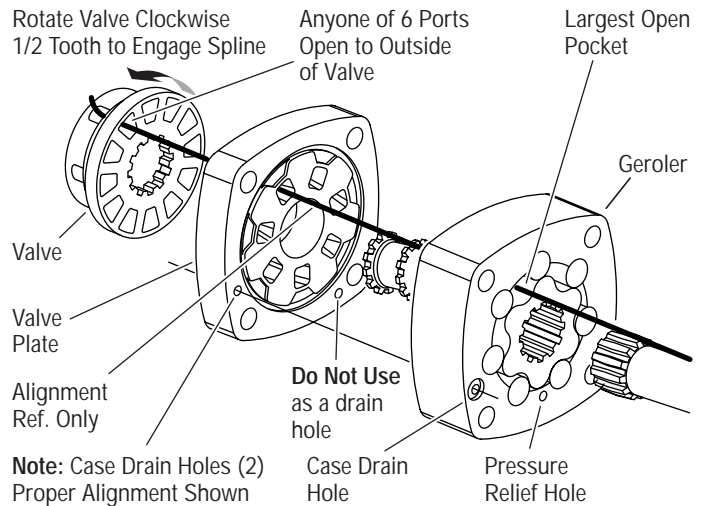

Figure 16 Timing Alignment
**Timing Step No. 1** — Locate largest open pocket in Geroler. Then mark location of pocket on outside edge of Geroler (see Figure 16).
34 Align case drain hole and pressure relief hole in Geroler with case drain hole and pressure relief hole in bearing housing. Install Geroler on bearing housing (see Figure 16). Retain rollers in outer Geroler ring if they are loose.
37 Align case drain hole in valve plate with case drain hole in Geroler. Install valve plate (seal side toward Geroler) on Geroler as shown in Figure 16.
**Timing Step No. 2** — Locate slot opening in valve plate which is in line with largest open pocket of Geroler (see Figure 16).